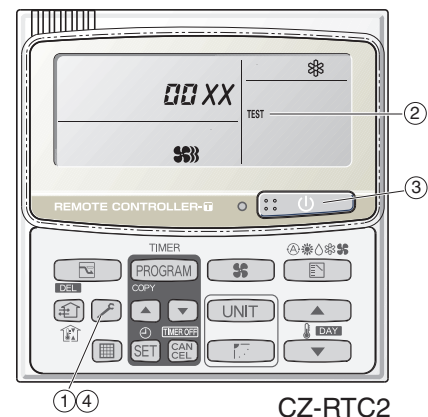

Fig. 7-3
- "Test" appears on the remote controller LCD display (Fig. 7-3).